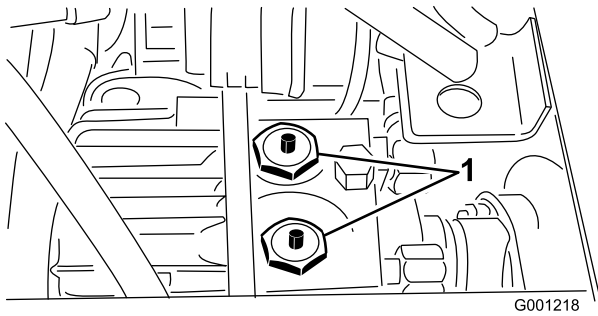

Figure 27
2. Depress and hold the pins located in the center of the two (2) check valve assemblies in the top of the transmission (Figure 27) while pushing or towing the machine. Figure 27 is shown with seat and seat mounting plate removed.